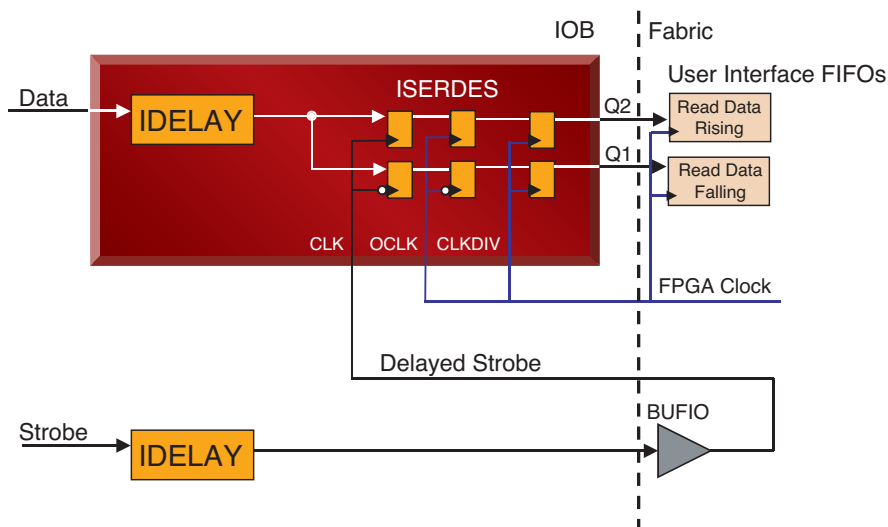

Figure 1 – Virtex-4 direct-clocking read data capture path
- The "direct-clocking" technique delays the read data so that it can be directly registered using the system clock in the input DDR flop of an I/O block. The memory strobe is only used during calibration to determine the optimal time to delay the associated data. Figure 1 shows the direct-clocking read capture path.